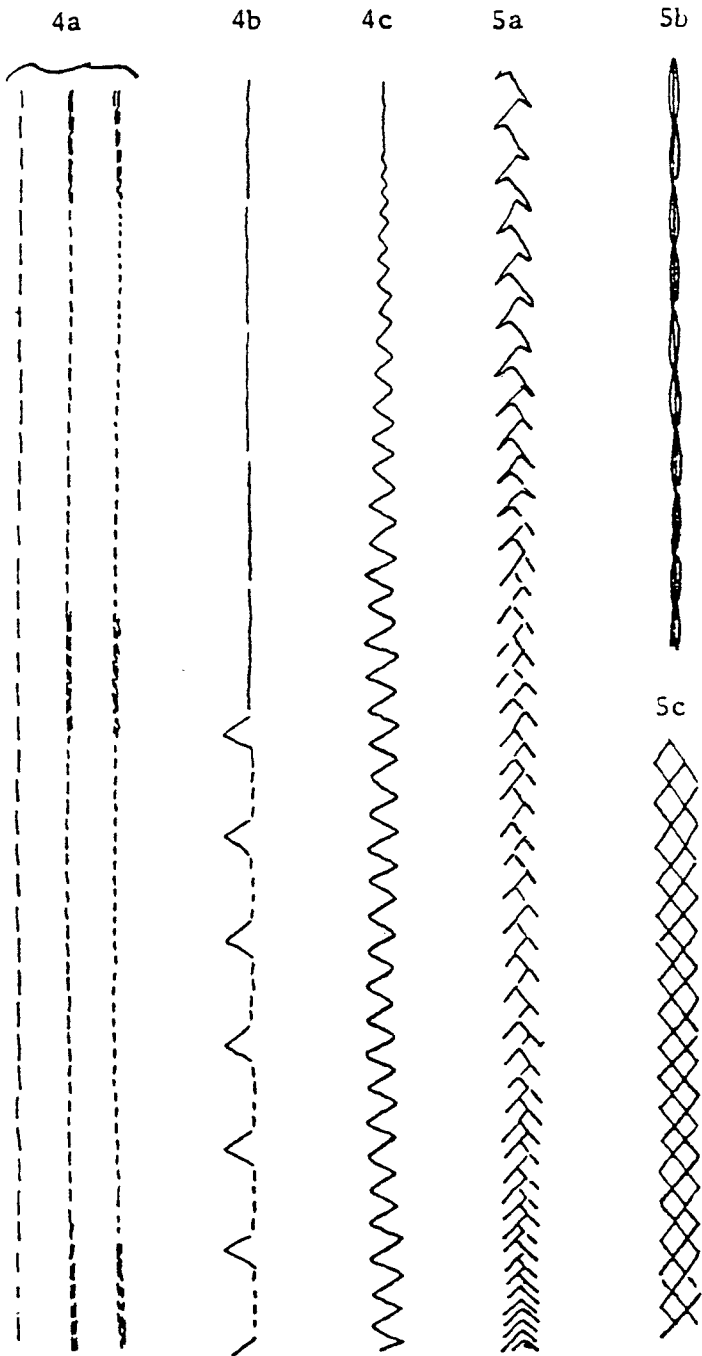

Fig. 45-1
4. Sew one line each 20 cm (8 inches) long, of the following stitches: (Fig. 45-1).